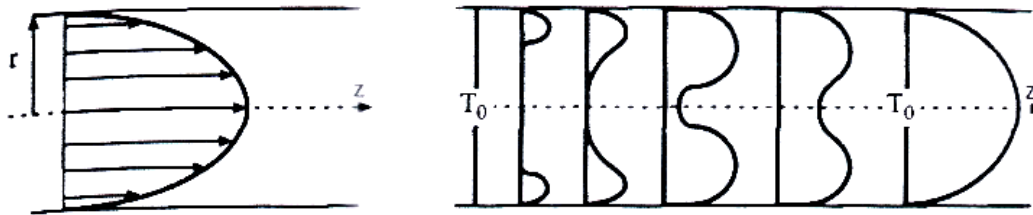

Figure 3: Development of velocity (left) and temperature (right) profile for a molten polymer flowing in a pipe
- [a] Based on Figure 3, elaborate the cause for the difference in the temperature profile in comparison to the velocity profile.